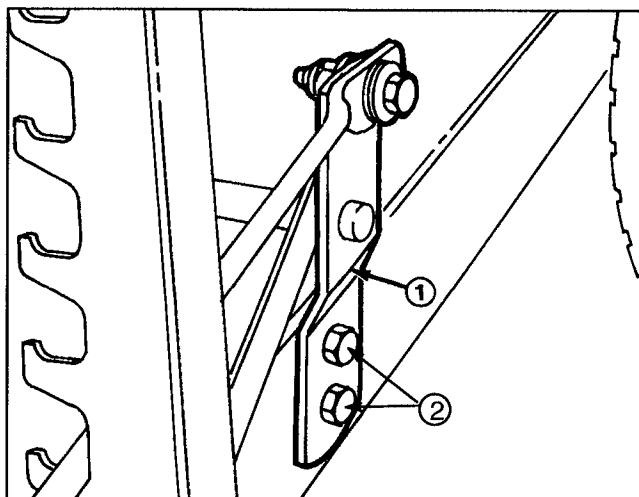

**Figure 31**
Adjust brake pucks if the parking brake does not hold or braking power is not sufficient when brake pedal is depressed. The brake is located on the left side of the transaxle (Fig. 31).
2. Tighten locknut approximately 1/4 turn clockwise (Fig. 31).